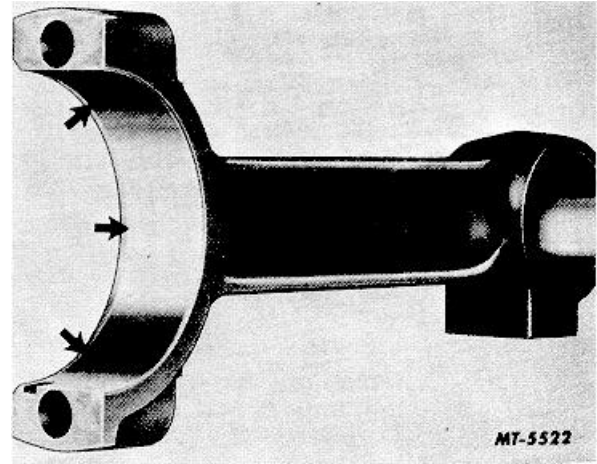

Fig. 87
- (3) Surface Finish: The connecting rod bore must be smooth (Fig. 87).